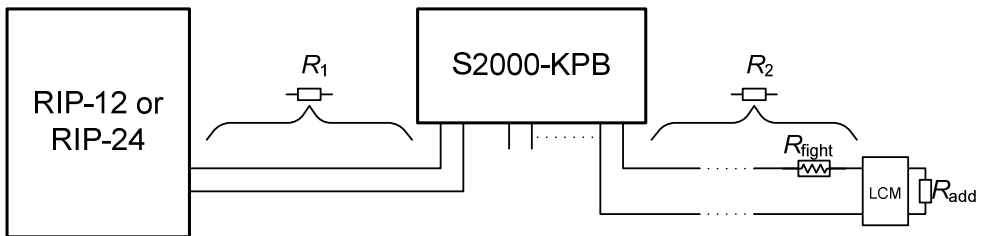

Figure 5
4.2 The power supply should be located at such distance from the unit that the resistance R_1 of the wires between the power supply and the unit (see Figure 5) meets the following requirements:
5.3.6 Connect discharge circuit simulators to the outputs as shown in Figure 5.